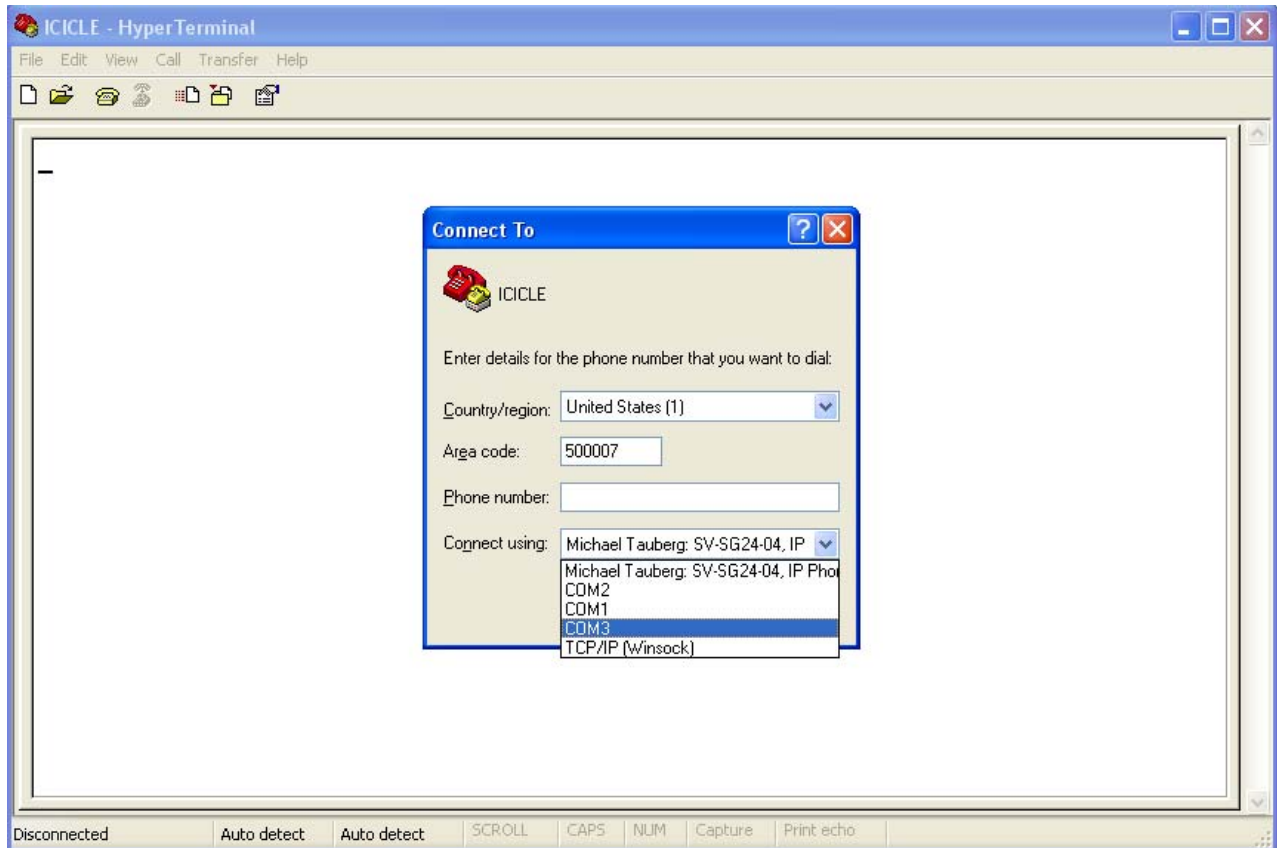

Figure C-7 · Select COM3 Serial Connection
3. The Connect To window will open. Select the COM3 serial connection (Figure C-7).